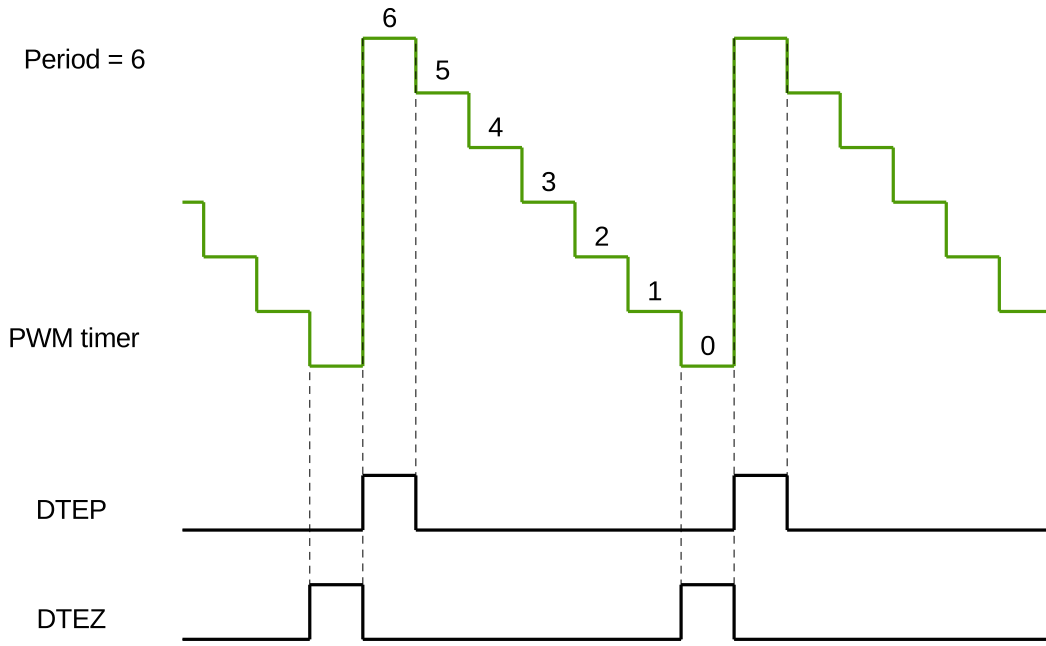

Figure 34-13. DTEP and DTEZ Generation in Count-Down Mode
2. DTEP and DTEZ do not happen simultaneously. When the PWM timer is in count-down mode, DTEZ will always happen one cycle earlier than DTEP, as demonstrated in Figure 34-13, so their action on PWM signals will not interrupt each other. When the PWM timer is in count-up-down mode, DTEZ will not occur.